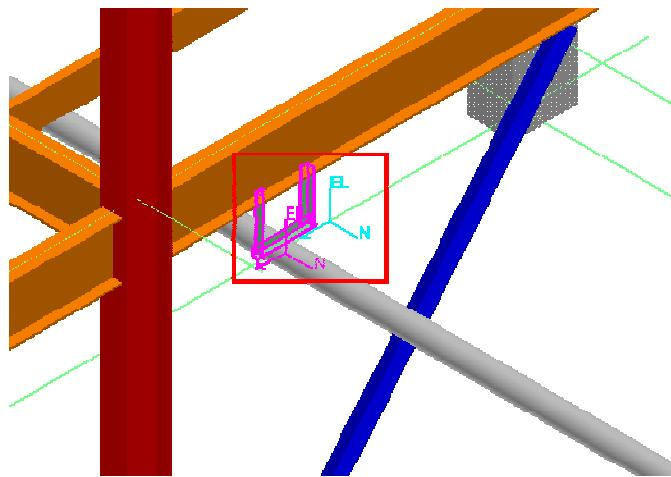

Figure 6: Selected Standard Support
2. Select the standard support, **U Shaped Frame L2x2x1/8 w/o Baseplate**, in which you will place the new part, a U-bolt, as shown in Figure 6.